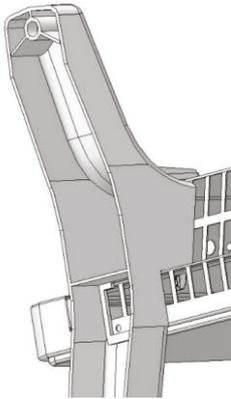

Fig. 5.1
5.6 For using of the convector on the floor, set the support, as shown in Figures 5.1 – 5.3.
Insert the hooks of the support (Fig. 5.1) into the holes of the air intake grate convector so, that the mounting holes coincided.